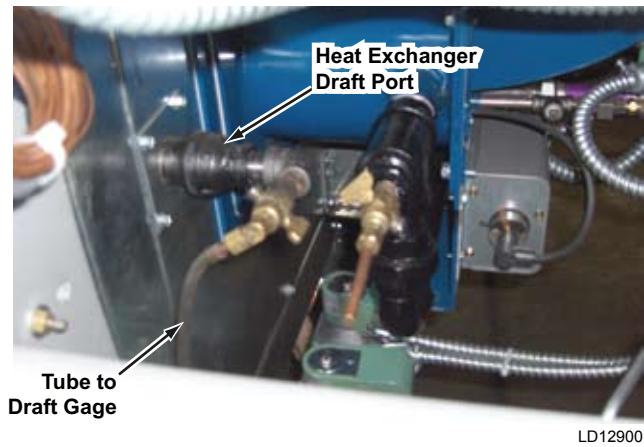

FIG. 3-16 – DRAFT OVER FIRE TEST PORT
4. The burner will automatically go to Low Fire at start up. After proof of Low Fire, the burner will modulate up to High Fire. This may take 15 seconds for a Powerflame burner and 90 to 180 seconds for the Eclipse burner. After the burner operates at High Fire use the manometer connected to the Heat Exchanger Draft Port (see Fig. 3-16), observe the reading. A negative pressure of about $-.03$ " WC is expected for draft overfire. Readings may differ slightly from those shown on the “Burner Test Report”.